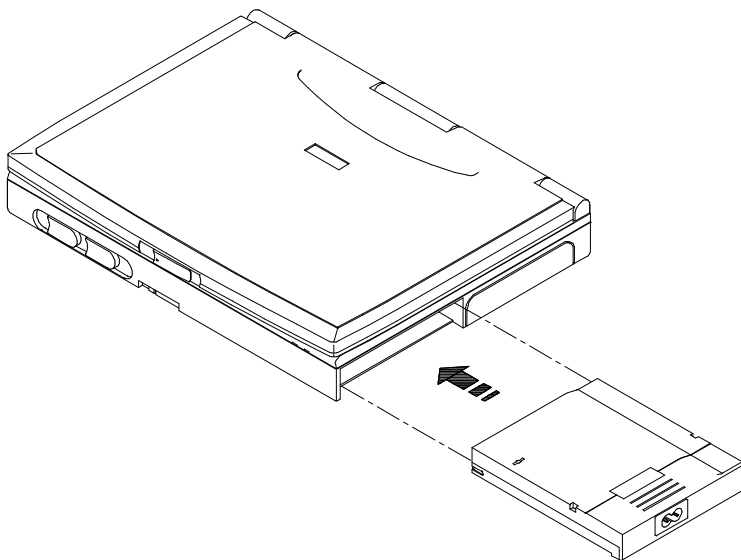

Figure 5-4: Inserting the AC Adapter into bay 2
The notebook can be run off AC power by inserting the AC Adapter into bay 2 of the notebook. Bay 2 is the bay in which the FDD module is located. **Figure 5-4** illustrates this connection. In the internal connection mode, as long as the AC Adapter continues to receive current from an electrical outlet, the battery in bay 1 will be charged
3. After you have removed the FDD from bay 2, insert the AC Adapter into the port. The bottom side should be facing down when the AC Adapter is inserted. Please refer to **Figure 5-4**.